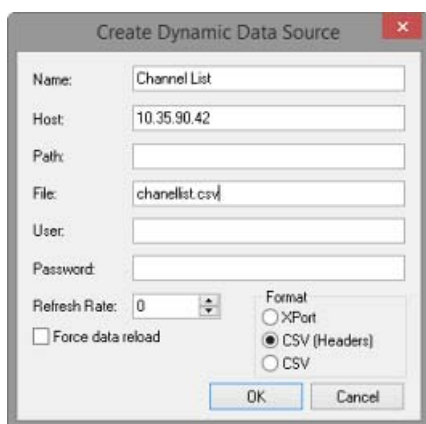

FIG. 43 Create Dynamic Data Source dialog (with sample data)
1. In the *Dynamic Data Sources* tab of the Resource Manager, click **New** to open the *Create Dynamic Data Source* dialog (FIG. 43):